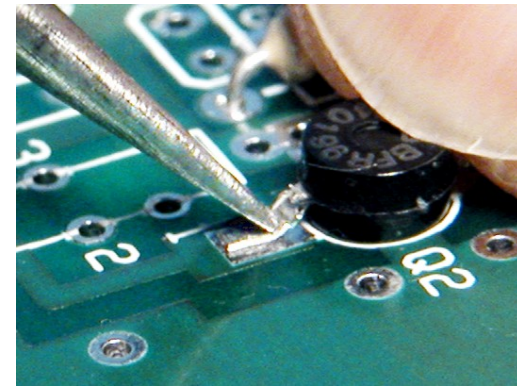

Figure 17. Installing Transistor Q2. Use gentle pressure with a small screwdriver blade to form the leads.
- Gently bend the leads down so they make solid contact with the board starting close to the body of the transistor. This is easily done by pressing down on the lead with a small flat-blade screwdriver (see Figure 17).